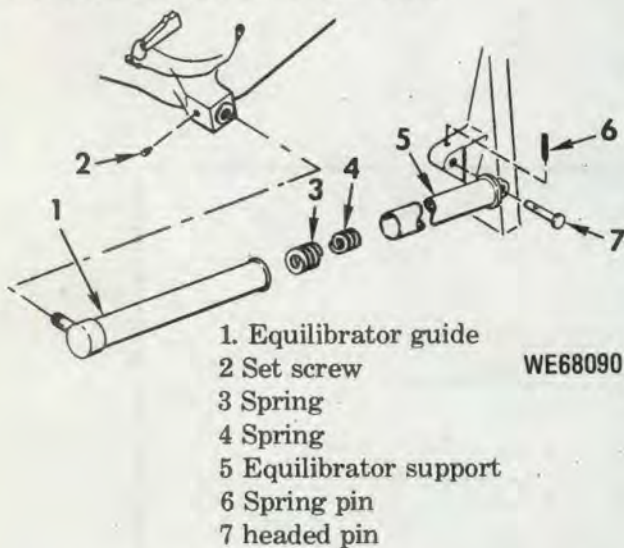

Figure 6-63. Equilibrator assembly, exploded view.
If equilibrator assembly being removed is on right side of mount, it will be necessary to pivot equilibrator support down to chassis deck in order to gain access to spring pin. Refer to figure 6-63 for identification of equilibrator assembly components.
(6) Remove guide (1, fig. 6-63) and springs (3 and 4).
(7) At base of equilibrator support (5, fig. 6-63), drive out spring pin (6) that secures headed pin (7) in mount bracket.
(8) Pull outward on equilibrator support near its base, and remove equilibrator support (5) and headed pin (7).
c. Installation. Installation is the reverse of removal. Assure that setscrew (2, fig. 6-63) is in groove of guide (1). Tighten setscrew until it is tight and then back off 3/4 to 1-1/4 turn.